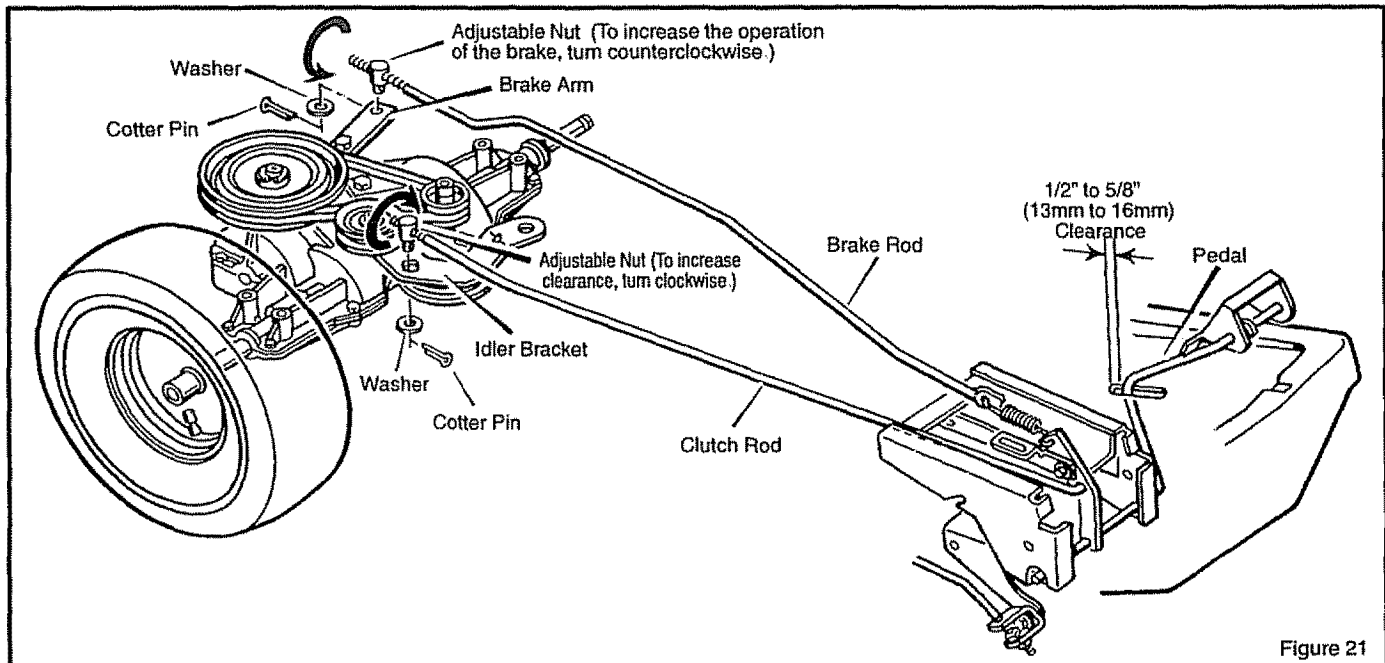

Figure 21
2. Make sure the shift lever is in the neutral (N) position.
3. Disconnect the **adjustable nut** from the **brake arm** (Figure 21).
If the motion drive belt is loose, the clutch will slip when; (1) going up a hill, (2) pulling a heavy load, or (3) the unit will not move forward. Check the clearance at the rear of the **pedal lever** (Figure 21). If the motion drive belt is loose, the clearance will be less than 1/2 inch and the clutch will slip. Adjust the clutch as follows.
1. Disconnect the **adjustable nut** from the idler bracket (Figure 21).